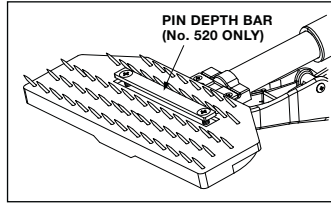

Figure 6
- D. With the No. 520, pin depth adjustment is made using the two screws in the pin plate. (See figure 6.)